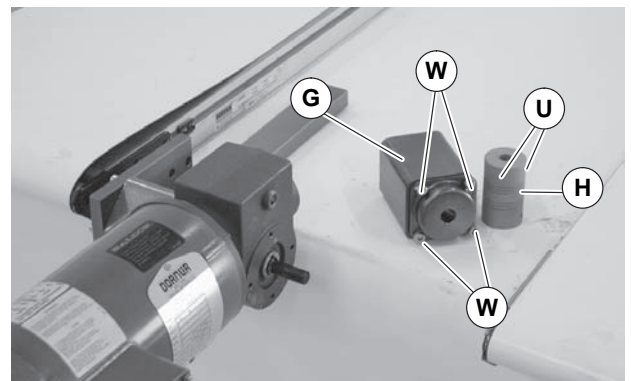

Figure 35
5. Remove four (4) screws (Figure 35, item W) and remove guard tube (G). Loosen set screws (U) and remove flex coupling (H).